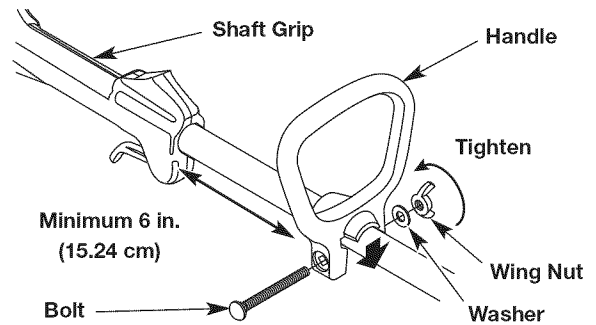

Fig. 3
1. Loosen the wing nut (Fig. 3).
2. While holding the unit in the operating position (Fig. 10), move the handle to the location that provides the best grip. Place it a minimum of 6 inches (15.24 cm) from the end of the shaft grip (Fig. 3).